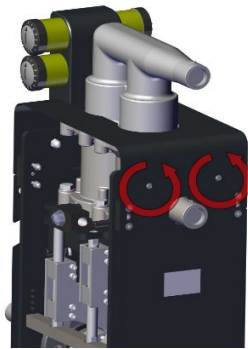

Fig. 4-4: Front
1. On the front of the Piston pump (Fig. 4-4: Front) unscrew the two hexagon socket screws M6x50 5 turns using a 4 mm Allen key (↻).